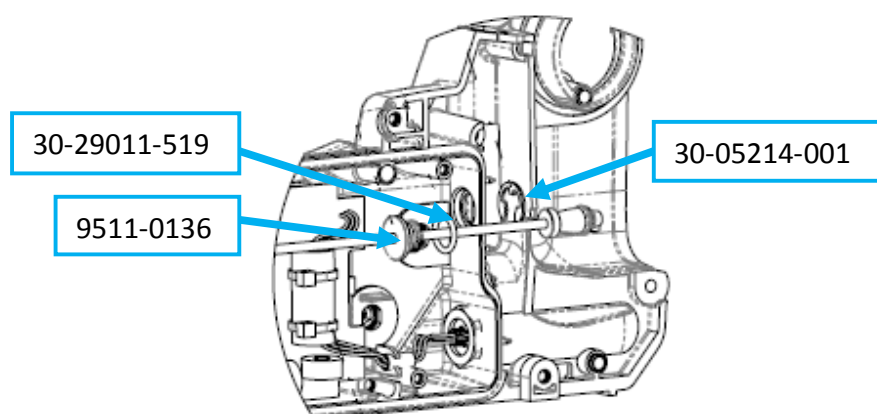

Figure 95: Wiring Loom Handle Socket Kit
- a. The wiring loom handle socket is a line replaceable unit and is available as a service kit, 3004-0056 Wiring loom Handle Socket Kit, which includes associated parts. Figure 95 illustrates the major parts of wiring loom handle Socket.